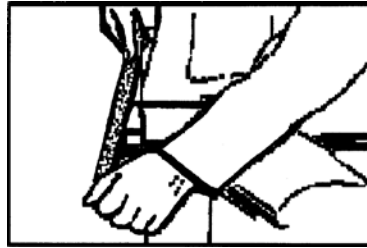

Fig.4
8. Deburr all cut edges. (Fig. 4)